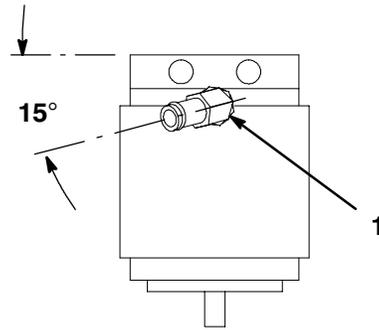

Figure 4
3. Thread a 3/4" 45° fitting into hydraulic pump and position as shown in figure 4.